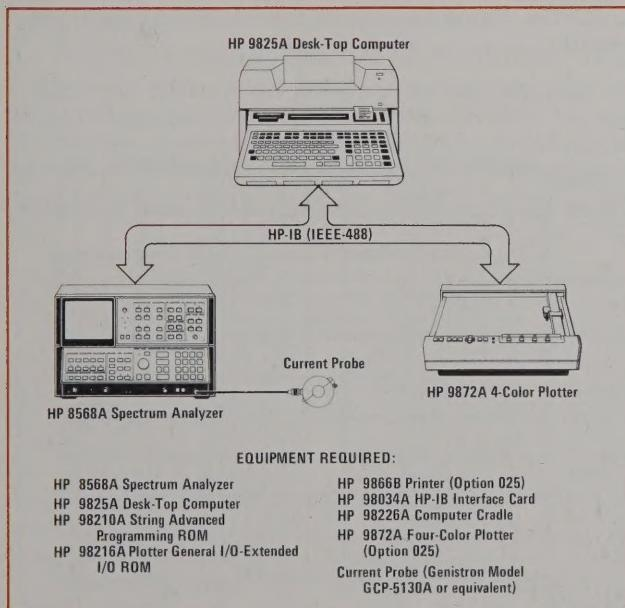

Figure 1. Configuration of an automatic EMI measurement system with the HP 8568A.
The HP 8568A is a general-purpose programmable spectrum analyzer. With appropriate transducers (antennas, or current probes), the HP 8568A can be used to measure broadband as well as narrowband (CW) interference signals. In the configuration used for this application (see figure 1) the HP 9825A desk-top computer serves as the instrument controller and a Genitron current probe is used as the transducer for the spectrum analyzer. Additional peripherals include the HP 9872A 4-color plotter and the HP 9866B thermal printer.